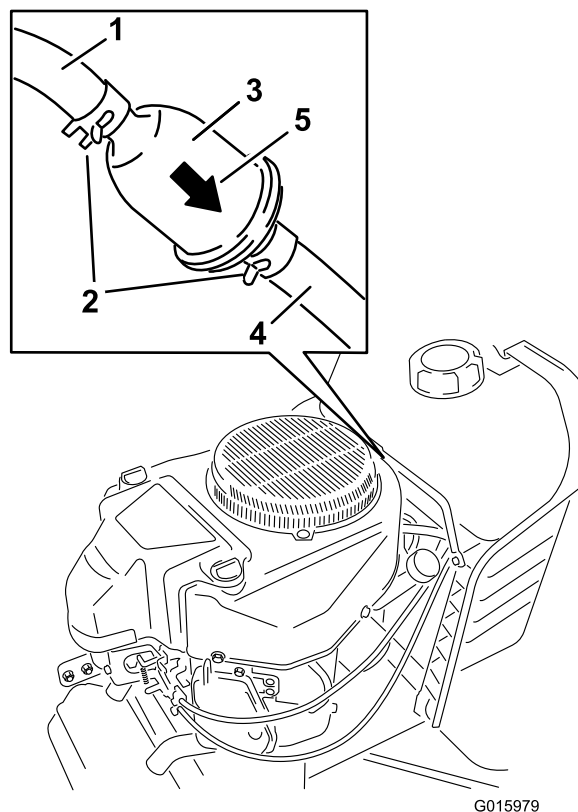

Figure 23
3. Raise the hood and locate the fuel filter between the fuel tank and the engine (Figure 23).
4. Squeeze the ends of the hose clamps together and slide them away from the filter (Figure 23).
7. Move the hose clamps close to the filter (Figure 23) to secure it in place.